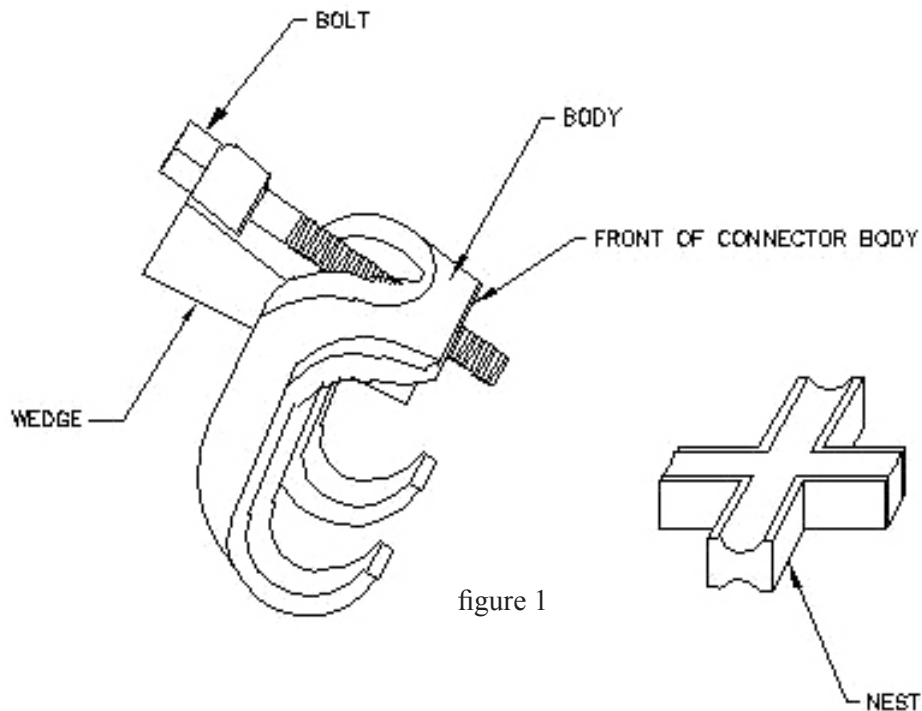

figure 1
4. Back out the bolt manually until the bottom of the bolt is flush with the front of the connector body. Refer to figures 1 and 2.